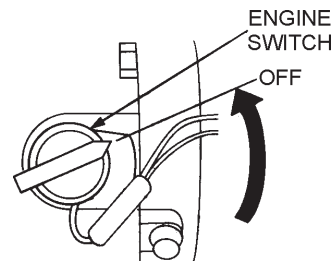

Figure 18. Engine ON/OFF Switch (OFF)
2. After the engine **cools**, turn the engine ON/OFF switch to the "OFF" position (Figure 18).